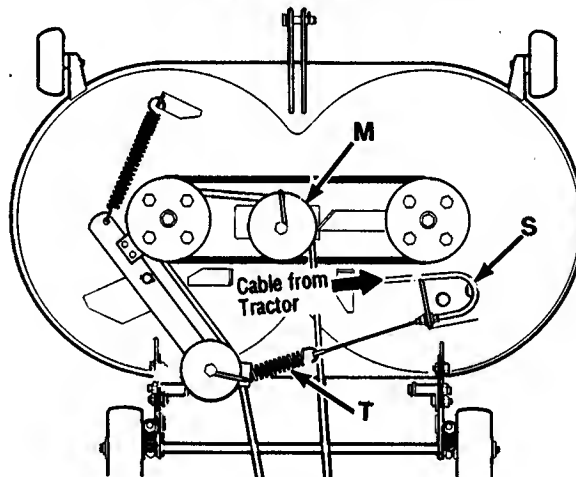
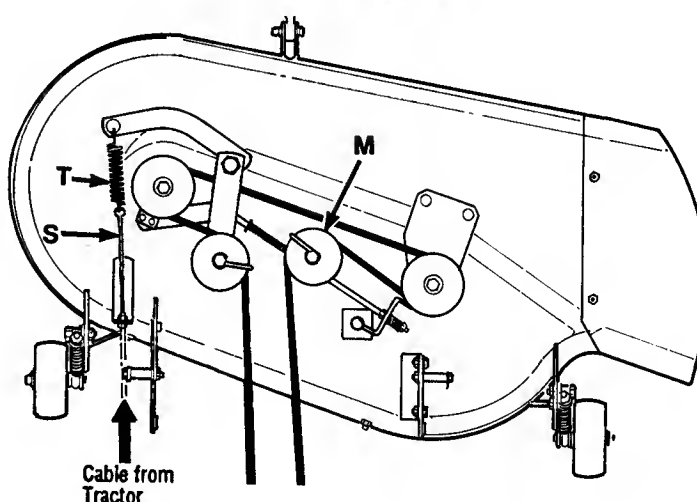

Fig. 19
Fig. 21
Belt tension is controlled by position of idler (M, Figs. 19 & 21) and pivot rods (F, Fig. 17). Distance (K, Fig. 17) should be 7-1/2" for 33" decks 7-1/4" for 36" decks. Adjust position of idler (M, Figs. 19 & 21) by moving it along the slot. If further adjustment is necessary, adjust distance (K, Fig. 17) by rotating pivot (E) to the rear. Re-adjust front center link to level mower. **NOTE: AFTER THE MOWER HAS**
With mower lift lever (See page 18, Item I) in the disengaged position, adjust cable (S, Figs. 19 & 21) at nuts (R, Fig. 21) so there is a slight slack in cable. WHEN ADJUSTED, SPRING (T) SHOULD NOT BE UNDER TENSION.